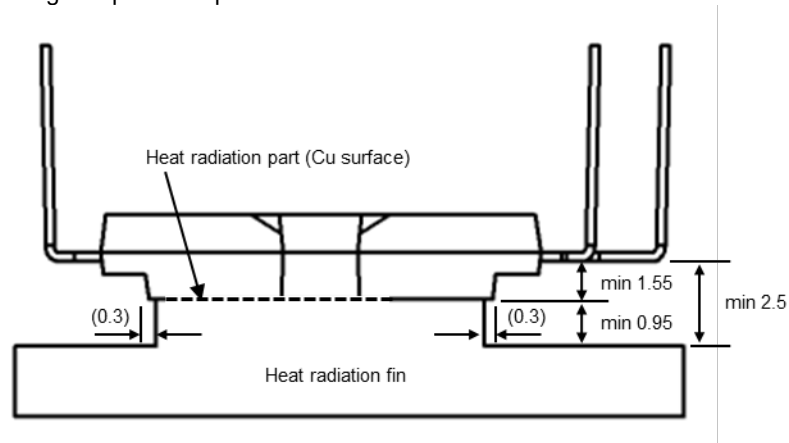

Fig.2-1-2 In the case of using convex fin (unit: mm)
- (6) Vcc(prot) The maximum supply voltage for turning off IGBT safely in the case of an SC or OC fault. The power chip might be damaged if supply voltage exceeds this specification.
- (7) Isolation voltage Isolation voltage is the voltage between all shorted pins and copper surface of DIIPM. The maximum rating of isolation voltage of SLIMDIP is 2000Vrms. But if such as convex shape heat radiation fin will be used for enlarging clearance between outer terminals and heat radiation fin (2.5mm or more is recommended), it is able to correspond isolation voltage 2500Vrms. See Fig.2-1-2.